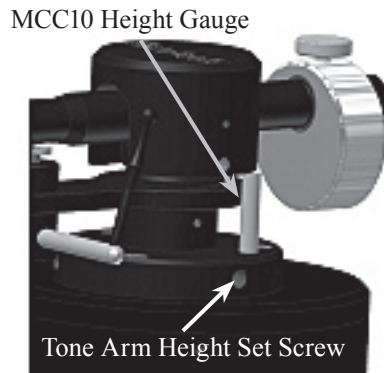

Figure 14
10. The gauge should just fit between the Tone Arm Housing and the Mounting Plate of the Tone Arm. This will verify the preset Tone Arm Height has not changed during shipping. Refer to figure 14.